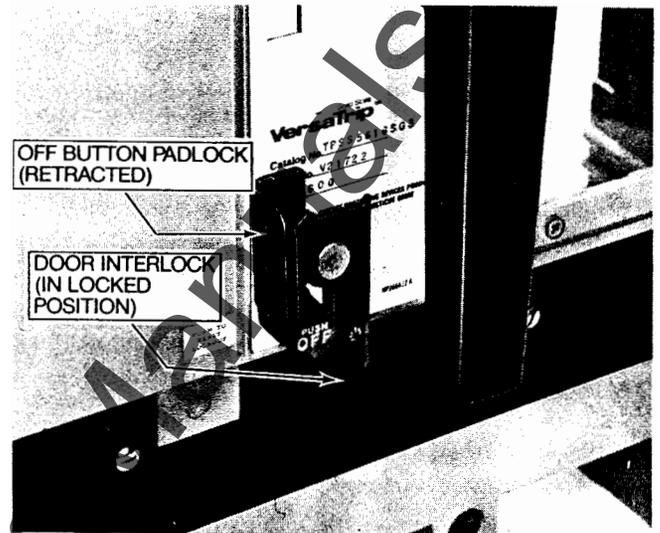

FIG. 43
- A. OFF Button Lock—To prevent charging of mechanism (See Fig. 43). Note this is a standard feature on MOM Breakers (lockable handle button) (Fig. 14).
1. With breaker OFF paddle may rotate counter-clockwise over breaker nameplate to clear enclosure panel door. Rotate clockwise to lock over door. (Fig. 43).